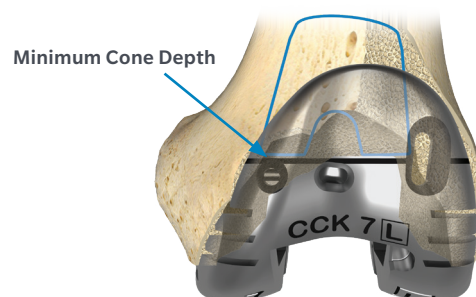

Figure 14
**Note:** The line across the anterior flange of the femoral provisional shows the minimum depth the broach must be prepared into the bone and can be used as a reference (Figure 14).